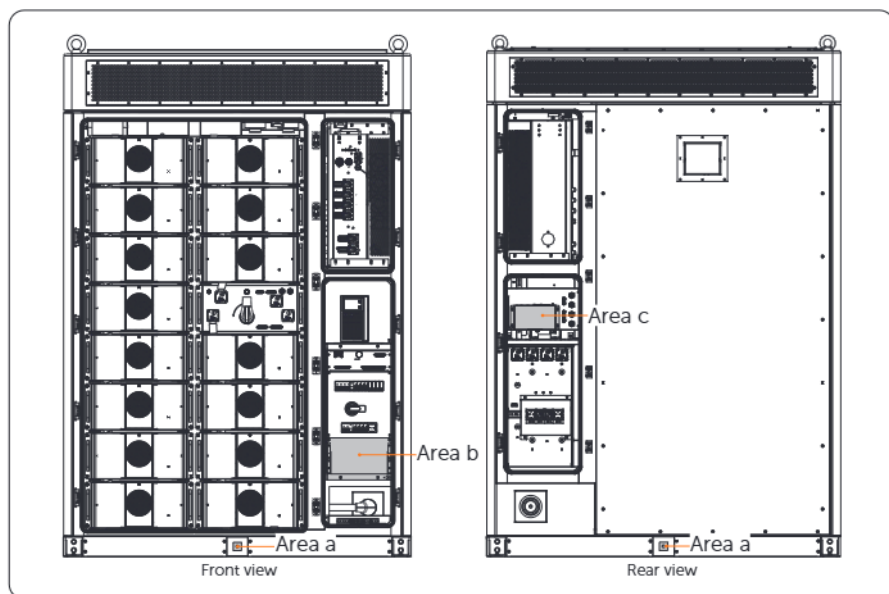

Figure 7-1 Wiring area
- Before wiring, operators are required to learn which areas need to be conducted wiring. For details, please refer to Figure 7-1.